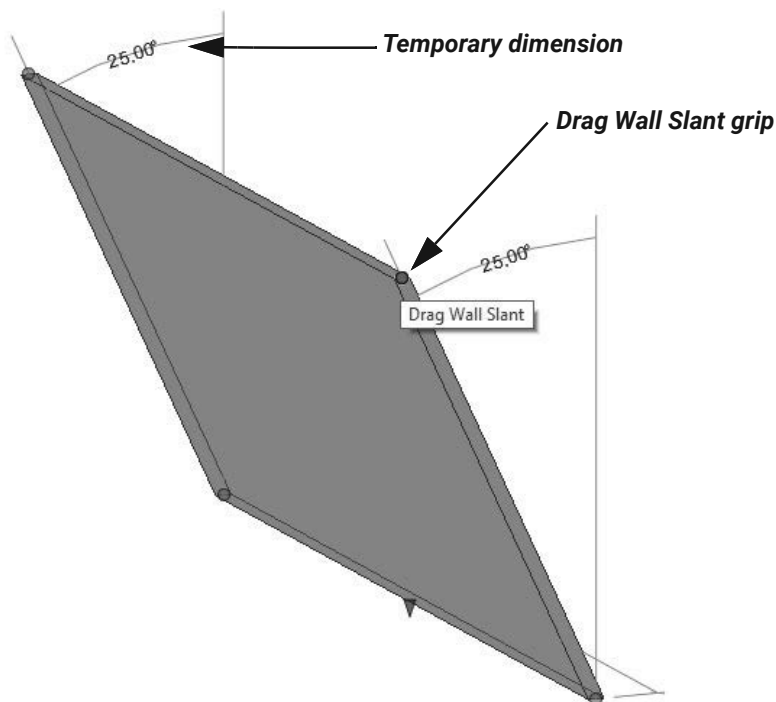

Figure 7–15
- When modifying a tapered wall, you have the ability to modify the **Drag Wall Exterior Face Slant** and **Drag Wall Interior Face Slant** grips or modify the temporary dimension in a 3D, section, elevation, or isometric view, as shown in Figure 7–16.